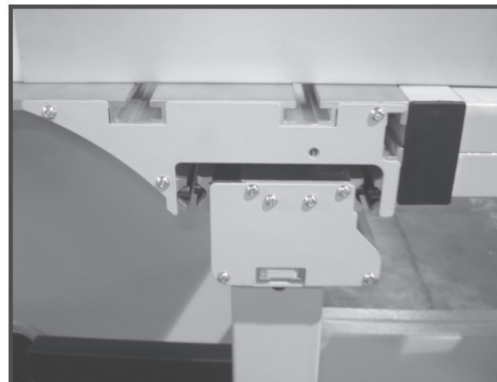

Fig. 5.3
- Inset the another lock plate to install the two side stand and fasten the stand use 2pcs M8x20 Cap screw at the both left and right hand side. (Fig. 5.3 & Fig .5.4)